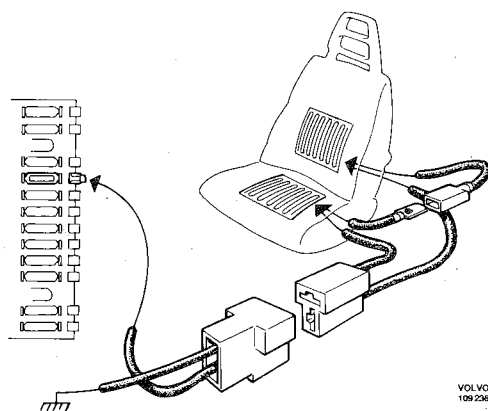

Fig. 8-53. Wires for heater pads
4. Fit the seat cushion to the seat fittings. Connect the wires between the seat back and cushion, Fig. 8-53.
5. Install the seat in the vehicle and connect up the contacts, Fig. 8-53.